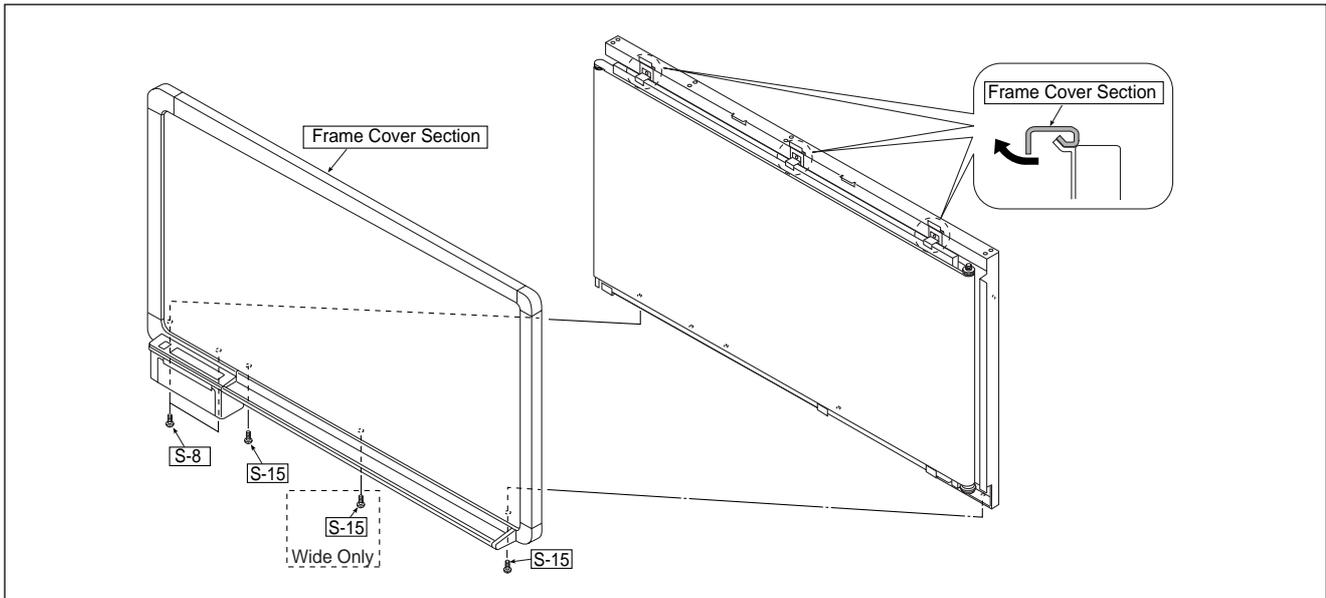

Fig. 8
7) Remove the Frame Cover Section. (See Figure 8.)
1. Remove the "S-8" and "S-15" screws (S : tow screws, W : three screws) as shown in Figure 8. (Tightening torque S-8 :  $14\pm 2.2\text{kgfcm}$ , S-15 :  $12\pm 2.0\text{kgfcm}$ )
2. Slide the Frame Cover Section in the direction indicated by the arrow as shown in the enlarged picture in portion A in Figure 8 and remove it.